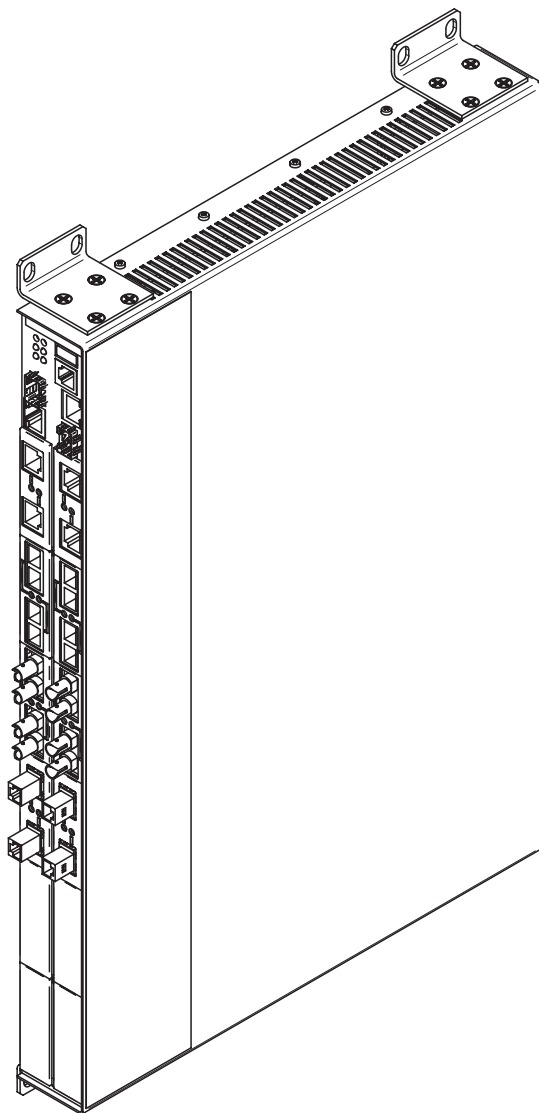

Figure 18: Vertical mounting on the wall
- Use the pre-mounted brackets included in the delivery as shown in the following figure (see fig. 18).
- Attach two additional brackets to the device (see on page 47 „Accessories“, not included in the delivery) as shown in the following figure (see fig. 18).